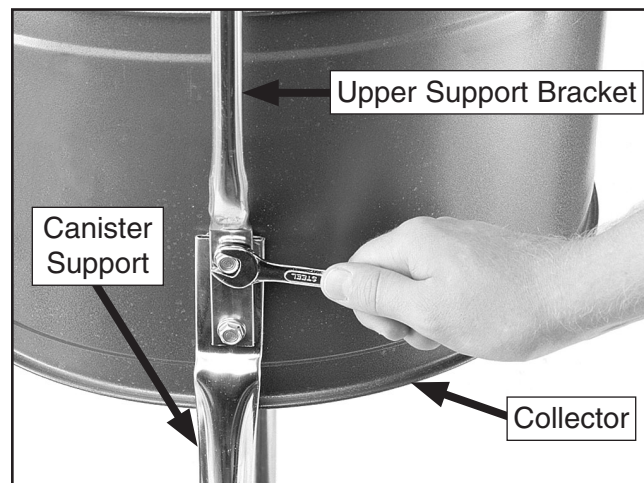

Figure 14. Mounting collector to brackets.
G0562Z only: Place the upper bag support over the canister support and secure it with (2) $\frac{5}{16}$ "-18 x $\frac{1}{2}$ " flange bolts, as shown in **Figure 14**.